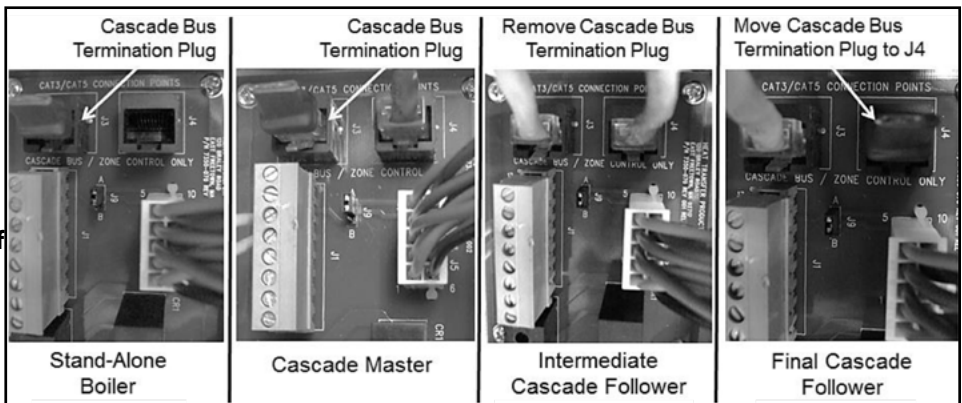

Figure 29 - Cascade Termination Plug Detail
NOTE: A termination plug is included in the CAT 3 / CAT 5 Bus Connection Point, labeled J3 in Figure 29. DO NOT REMOVE THIS PLUG! Doing so will affect boiler operation and void warranty.
1. Connect the incoming power wiring to the line voltage terminal strip in the electrical junction box at terminals 120V, Neutral, Ground (shown in Figure 29).
3. Connect the boiler pump as shown in Figure 29 to the terminals marked 1 - (HOT), 2 - (NEUT), and 3 - (GND). The connections shown are suitable for a maximum continuous pump draw of 3 amps at 120 volts. If the pump requires more current or voltage than the 120 volts supplied, an external motor starter or contactor will be required.
The control includes a dry contact alarm output. This is an SPDT circuit, rated at 5 amps at 120 volts. This contact can be used to activate an alarm light or bell or notify a building management system if the boiler goes into a lockout condition. The circuit between the ALARM COM and NC terminals is closed during normal operation and the circuit between ALARM COM and NO is open during normal operation. The connections depicted in Figure 29 show two 120 volt lights connected to the alarm terminals. One light will be on when the boiler is in normal mode and the other light will be on when the boiler is in lockout mode.
1. Connect the room thermostat to the terminals marked THERMOSTAT in the electrical junction box (see Figures 29 and 32). Alternately, any dry contact closure across these terminals will cause the boiler to run. Take caution to ensure neither of the terminals becomes connected to ground.
2. Connect the indirect sensor (7250P-325) to the terminals marked DHW SENSOR (shown in Figures 29 and 32) in the electrical junction box.
2. Connect a building management system or other auxiliary control signal to the terminals marked 16, 0-10 VOLT + and 17, 0-10 VOLT - in the electrical junction box (shown in Figure 29). Caution should be used to ensure that the 0-10 VOLT + connection does not become connected to ground.